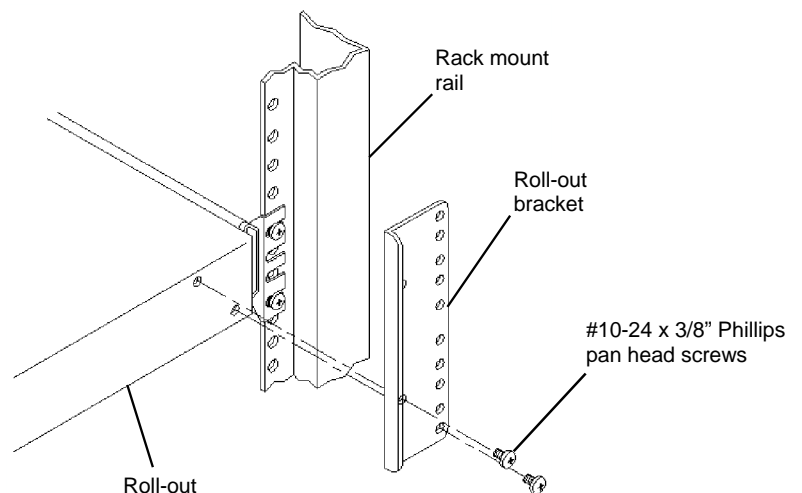

Figure 8
2. Mount the Roll-Out Bracket to the rear flange of the roll-out using two #10-24 x 3/8" Phillips pan head self tapping screws. See **Figure 8**.